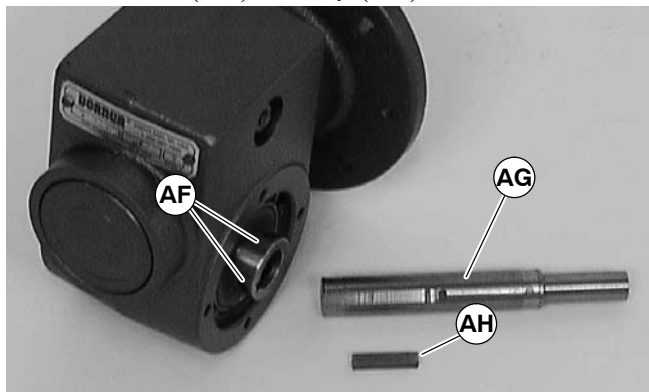

Figure 22
- Loosen six (6) set screws (AF of Figure 22). Remove drive shaft (AG) and key (AH).
- Replace the original shaft (AG of Figure 22) and key (AH) into new gear reducer. Tighten set screws (AF) to 3 Nm.